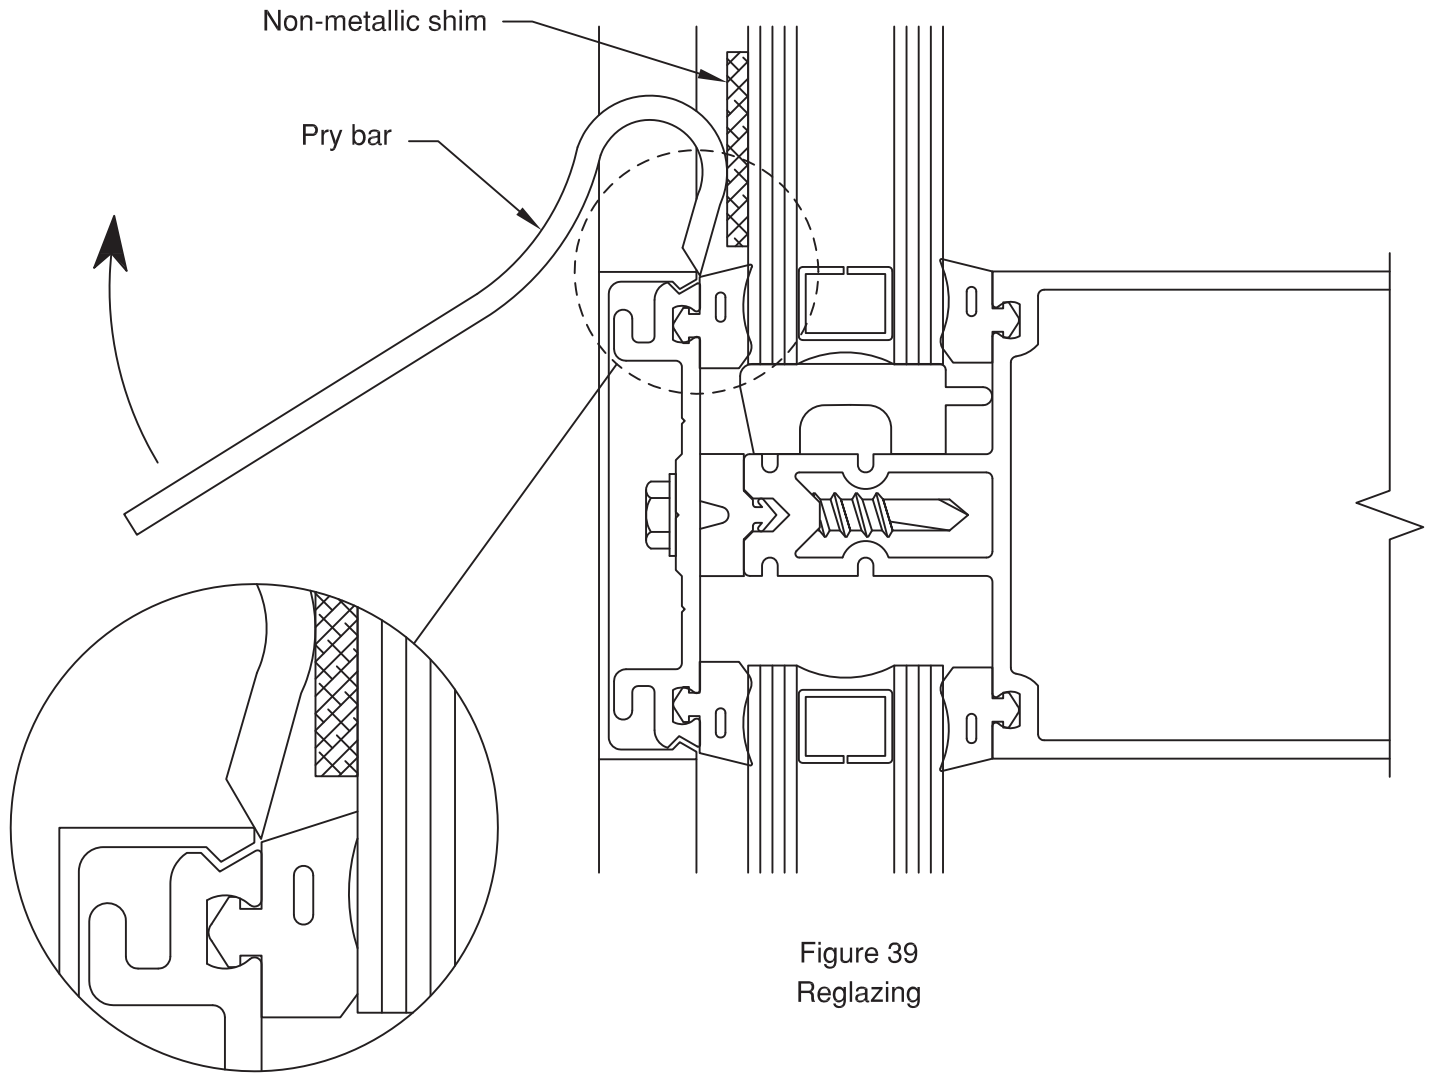

Figure 39
- E.1 Reglazing must be done from the exterior. carefully remove face covers surrounding the lite of glass to be deglazed. **SEE FIGURE 39.**